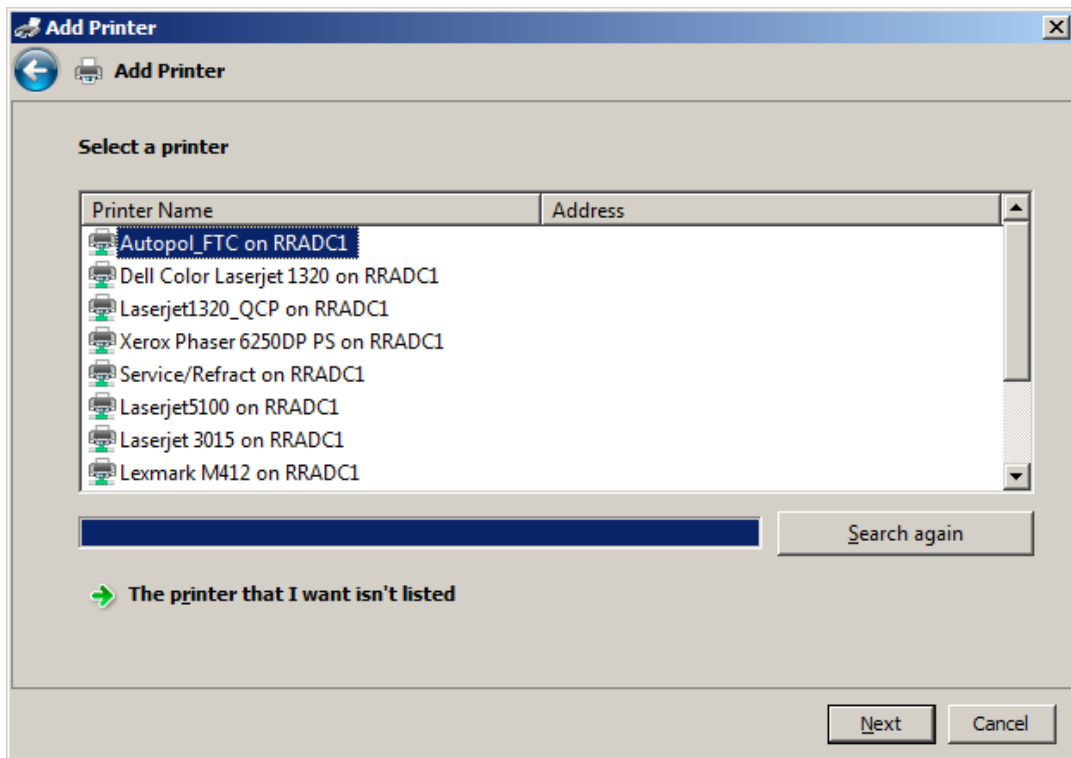

Figure 10.27 – Select a printer dialogue box
- 6) If your network has printer discovery turned on a list of network printers will be displayed as shown in Figure 10.27 below.